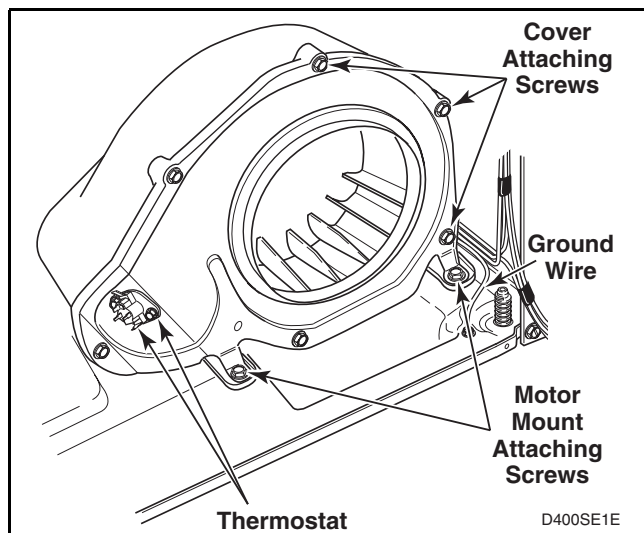
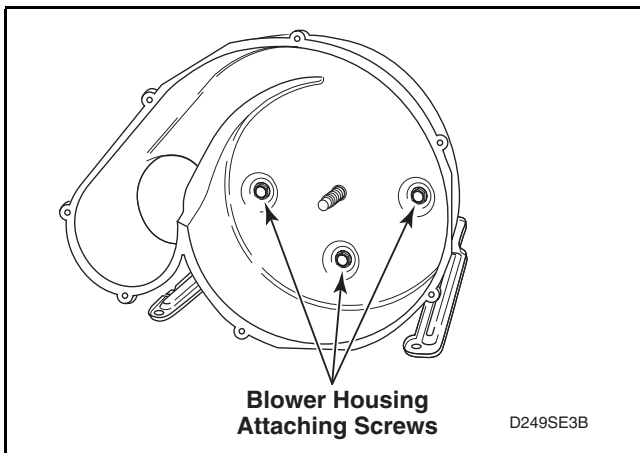

Figure 24
Figure 27
- f. Remove screw holding ground wire to dryer base. Refer to *Figure 24*.
- i. Remove two screws holding motor mounting bracket to dryer base. Refer to *Figure 24*.
- (1) Remove screws holding cover to housing. Refer to *Figure 24*.
- (2) Hold motor pulley securely and unthread blower fan from motor shaft (right hand thread). Use a 7/8 inch, 6 point socket to aid in the removal of the blower fan.
- (3) Remove three screws holding the blower housing to the motor mounting bracket. Refer to *Figure 27*.